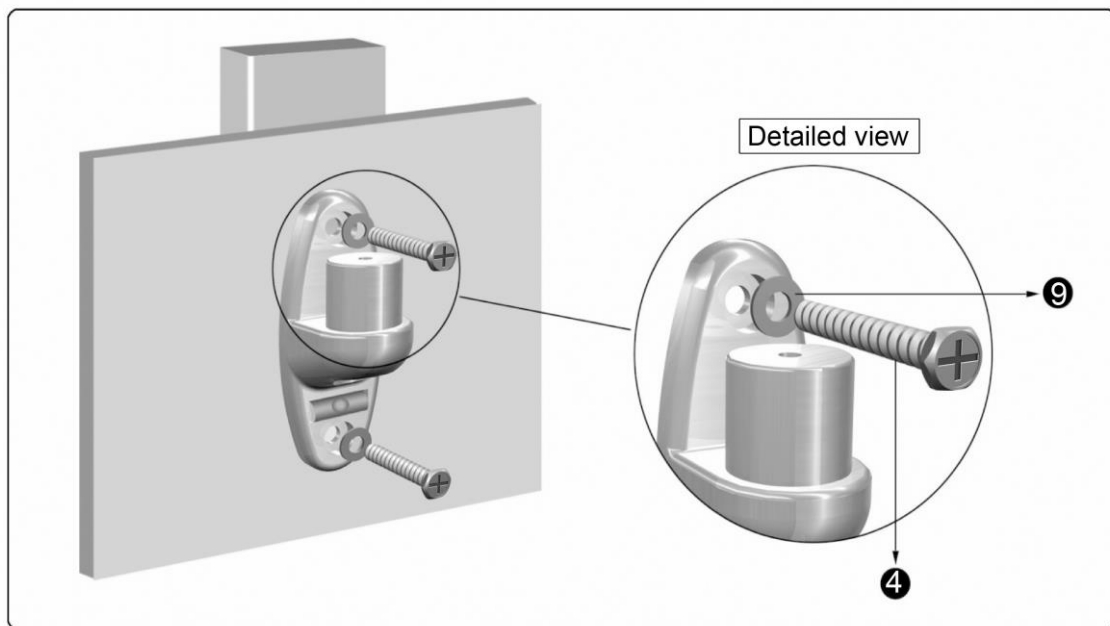

Figure 1-3
3. Insert the Philips Screw ST6.3x65mm (**4**) through the Washer (**9**), Wall Plate (**3**) and into the pilot hole. Securely tighten the screws with a Philips screwdriver (**See Figure 1-3**).